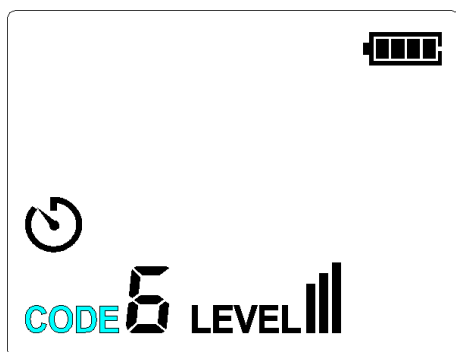

Figure 6.1.1b CODE Increasing
3. When the code symbol flashes, short press the Up/Down button to set the code to 0, 1, 2, 3, 4, 5, 6 or 7. The default code is 5. As shown in Figures 6.1.1b and 6.1.1c.